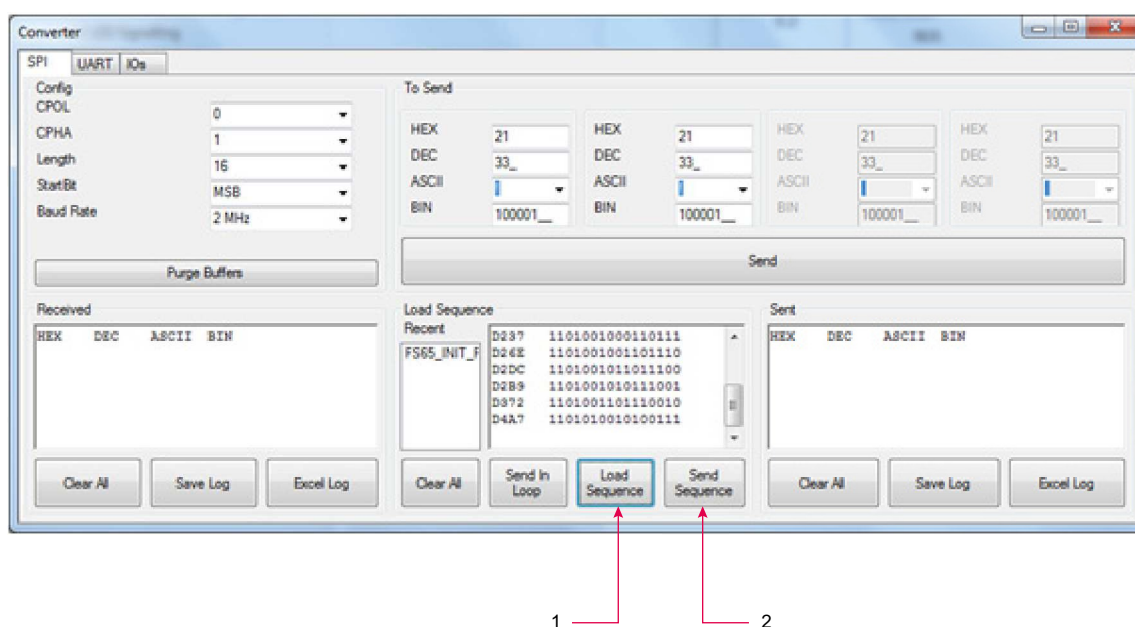

Figure 20. Loading the register configuration example file
5. Launch FlexGUI. When FlexGUI opens, click the **load sequence** button to load the register configuration file (see Figure 20).